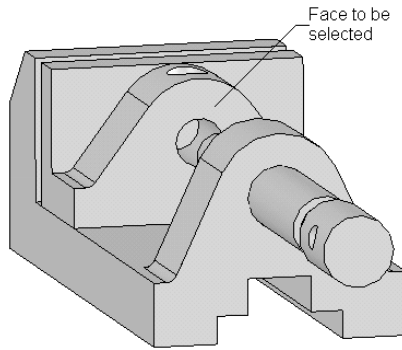
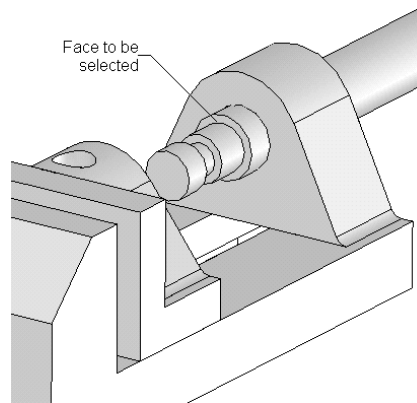

Figure 12-64 Face to be selected
Figure 12-65 Face to be selected
9. Rotate the assembly view and select the face of the Vice Jaw, as shown in Figure 12-64. Next, select the face of the Jaw Screw, as shown in Figure 12-65.